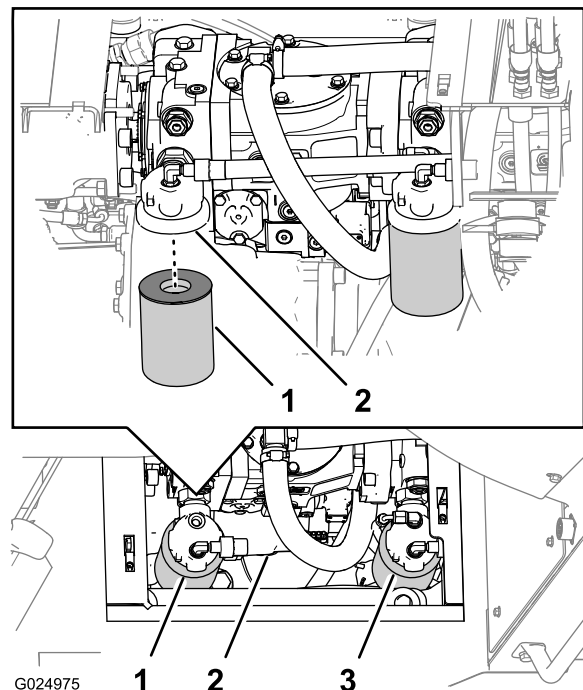

Figure 111
Note: You can access the hydraulic-charge filter from under the right side of the machine, behind the hydraulic reservoir (Figure 111).
2. Place a container under the hydraulic-charge filter (Figure 111).
3. Rotate the hydraulic-charge filter counterclockwise and remove the filter (Figure 111).